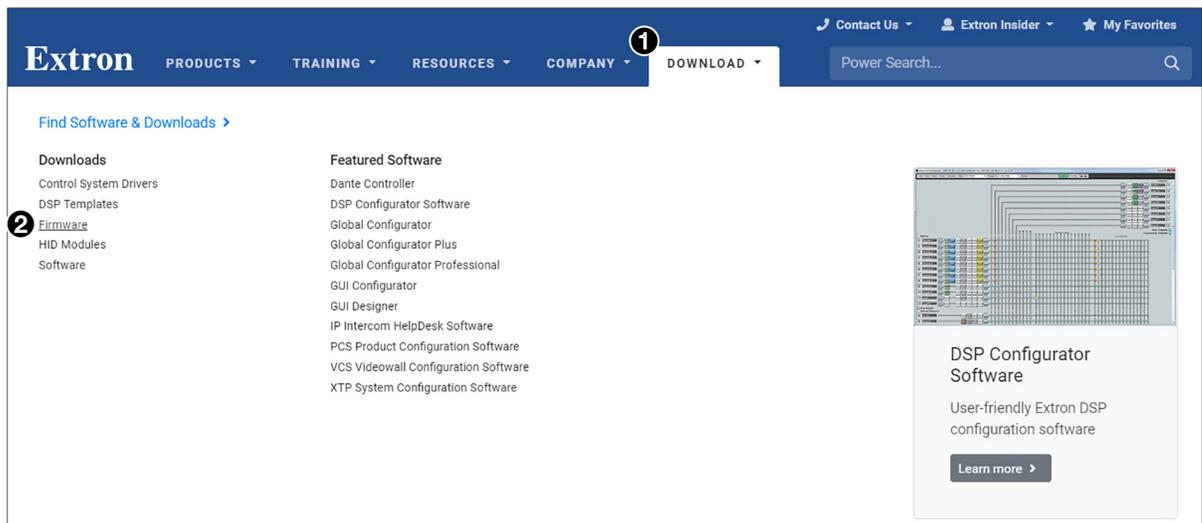

Figure 14. Firmware Link on the Download Tab
1. Go to www.extron.com, hover the mouse pointer over the **Download** tab at the top of the page, then slide the pointer to the **Downloads** column, and click the **Firmware** link (see figure 14, ①).